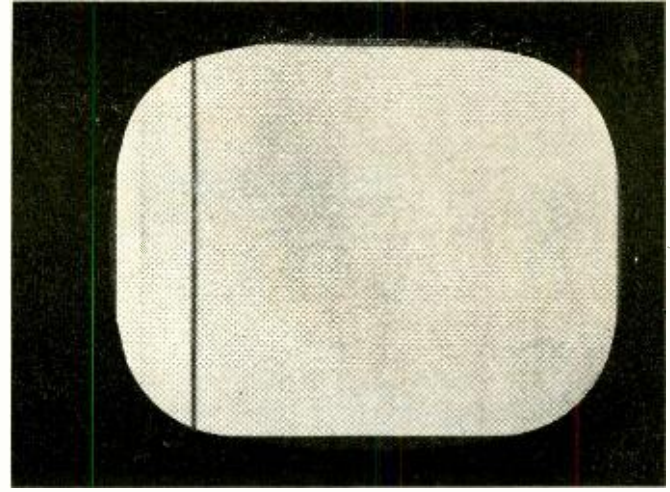

Fig. 5—Barkhausen effect (retouched).
*In a GE 803 receiver I am getting severe Barkhausen effects (black vertical bars as shown in Fig. 5). I've replaced the 6BG6 horizontal output tube,*
This generator (Fig. 5) has an oscillator stage, a peak clipper, a monostable multivibrator producing the pulses, and a power amplifier. The oscillator is of the low-frequency Wien-bridge type, using an ECH21. Pulse